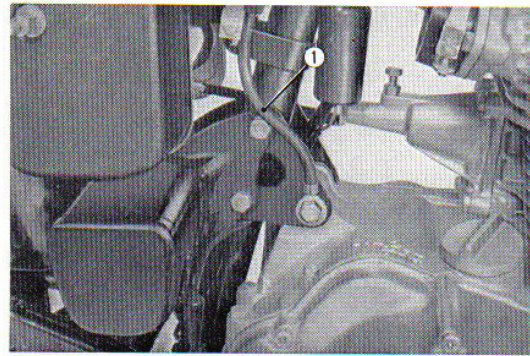

Fig. 3.9 Installing the battery ground cable
- a. Insert the hanger bolts from the right side of the frame and tighten nuts from the left side. Install the battery ground cable from the right side. (Refer to Fig. 3.9)
- c. When installing the battery ground cable, clean all rust and paint from the hanger bolt as well as from the terminal and the frame mounting area so that good contact is assured. (Refer to Fig. 3.9)